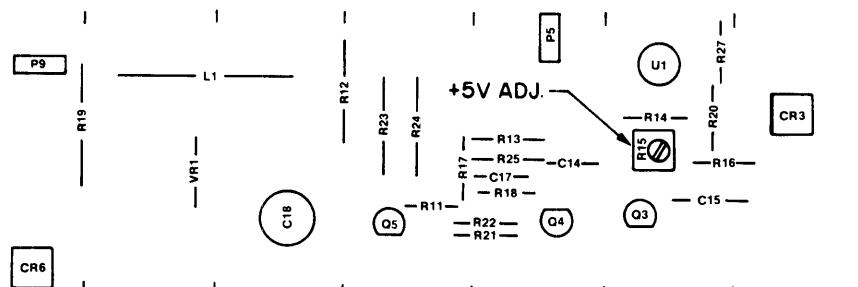

Figure 5-2. +5 V Adjustment Location on Power Supply
- Adjust A5R15 (figure 5-2) until DVM indicates +4.95 V (limits +4.93 to +4.97 V).